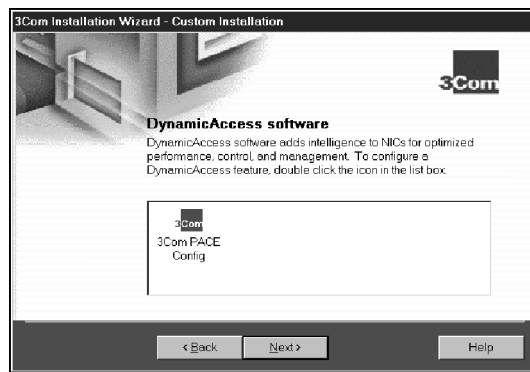

Figure 3-11 DynamicAccess Software Inquiry Screen
When you click *Next* in the previous section, the DynamicAccess Software Inquiry screen appears, as shown in Figure 3-11.
- 1 Double-click the 3Com PACE Config icon shown in Figure 3-11.**